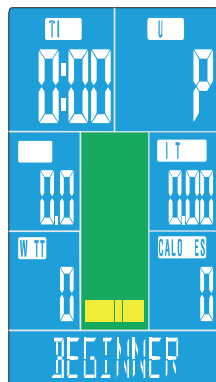
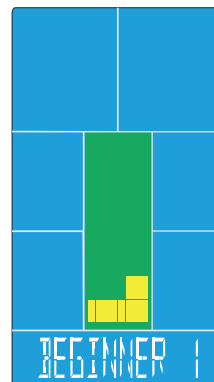

FIGURE 9
FIGURE 10
4. If select BEGINNER function (Figure 9), press MODE confirm to next step. Set BEGINNER1~4 (Figure10), press UP/DOWN to select BEGINNER 1, and press MODE to confirm entering this mode, you can press UP/DOWN button to adjust and set TIME or directly press START button to start workout. After START,